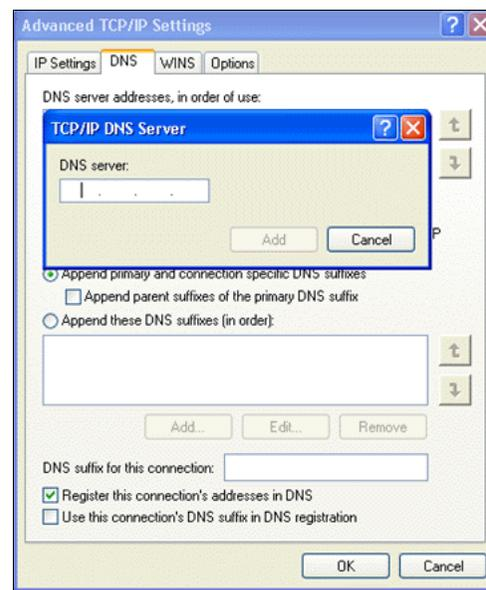

Figure 2-31. Advanced TCP/IP Settings
Step 2. In TCP/IP DNS server, type the IP address of the DNS server, and then click Add, as shown in Figure 2-31, below: